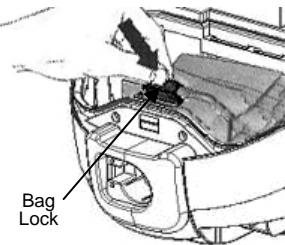

Fig. 8
5. Lock the bag in its place with the lock as shown in Fig. 8.